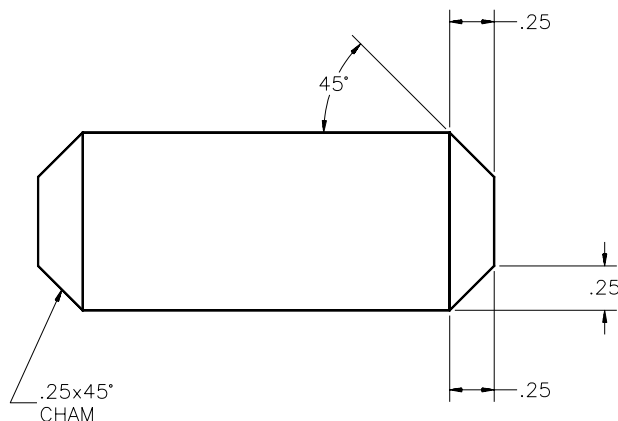

Figure 22-44 *Different ways of specifying a chamfer*
19. A chamfer can be dimensioned by specifying the chamfer angle and the distance of the chamfer from the edge. It can also be dimensioned by specifying the distances, as shown in Figure 22-44.